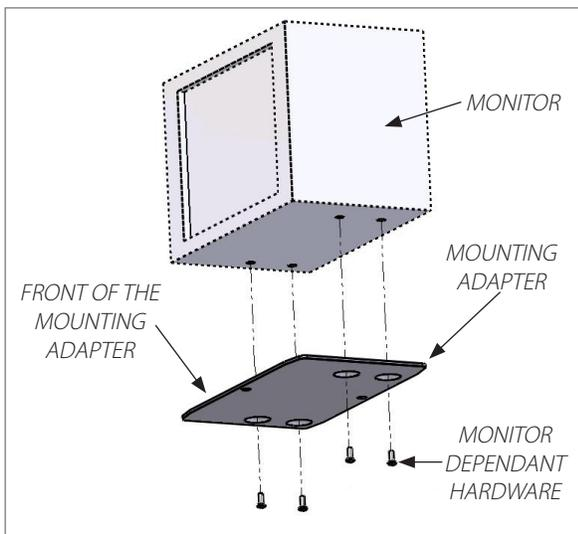

Figure 1
1. First, install the *MOUNTING ADAPTER* to the device (please refer to the adapter installation manual provided with the adapter) (**Figure 1**).